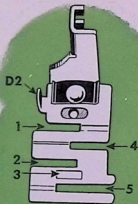

Fig. 52. The Edge Stitcher
The distance from line of stitching to edge of material in slots is regulated by moving lug **D2**, **Fig. 52** to right or left.
1. Insert one of laces in slot **1** of edge stitcher and the other in slot **4**, **Fig. 52**.
2. Insert piping with its folded edge to left in slot 3 and edge to be piped in slot 4, **Fig. 52**.
1. Place garment under edge stitcher and tape in slot 1 or 4, **Fig. 52**.
2. Insert the edge in slot 5, **Fig. 52**, and adjust lug **D2** to stitch as close to the edge as desired.